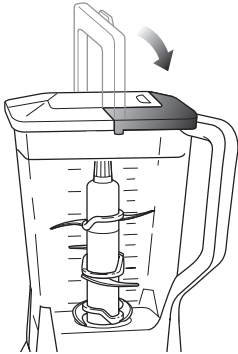

Fig. 5
- 3 Place the color co-ordinated lid onto the corresponding container with the locking handle in the upright position and the pouring spout on the corner opposite the container's handle. Align the arrows (▼) located on the lid and container's handle. Ensure that the lid is completely seated and press the lid down into the container. Press the locking handle down so that the latches on the lid fit under the tabs on the container. (Fig. 5)